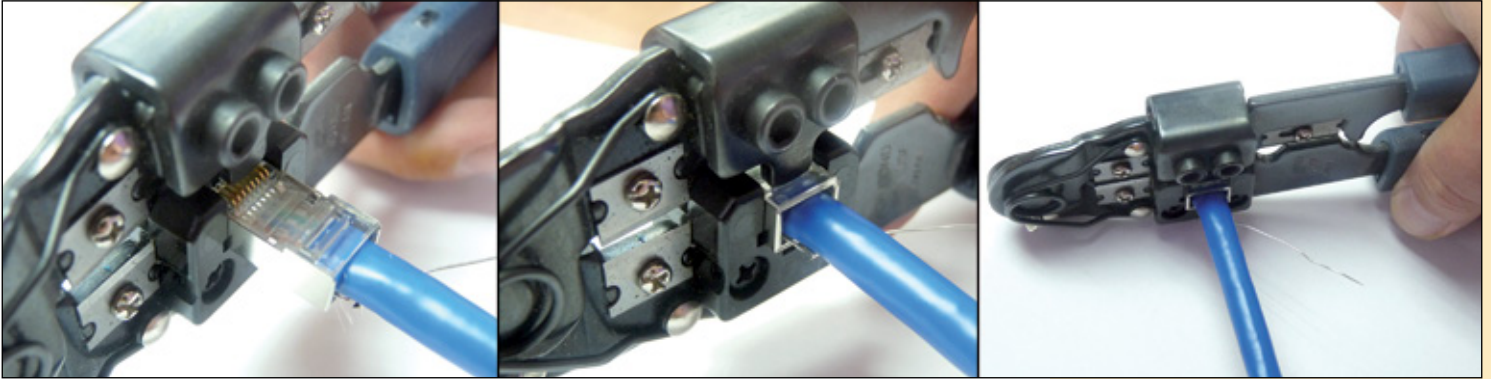

Figure 21
- 16 Proceed to crimp the plug with the Crimper-Cutter tool as shown in **Figure 21**.